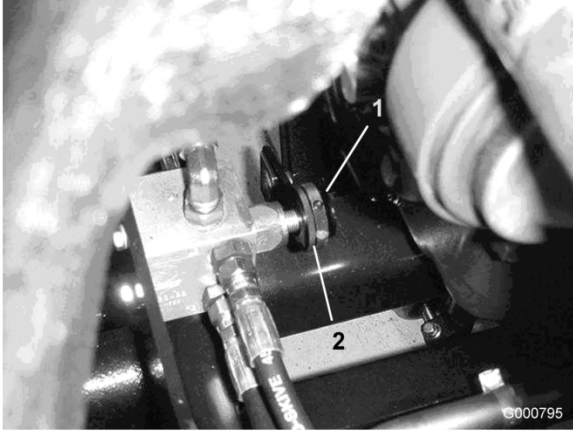

Figure 76
5. Locate valve in front of rear axle for rear cutting units (Figure 76).
6. Loosen locking ring securing knob (Figure 76).